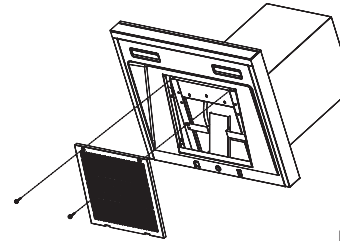

Fig.11
1. Remove the grease filter by unscrewing 2 pcs screws. This will disengage the filter from the hood. Tilt the filter downward and remove (Fig.11).